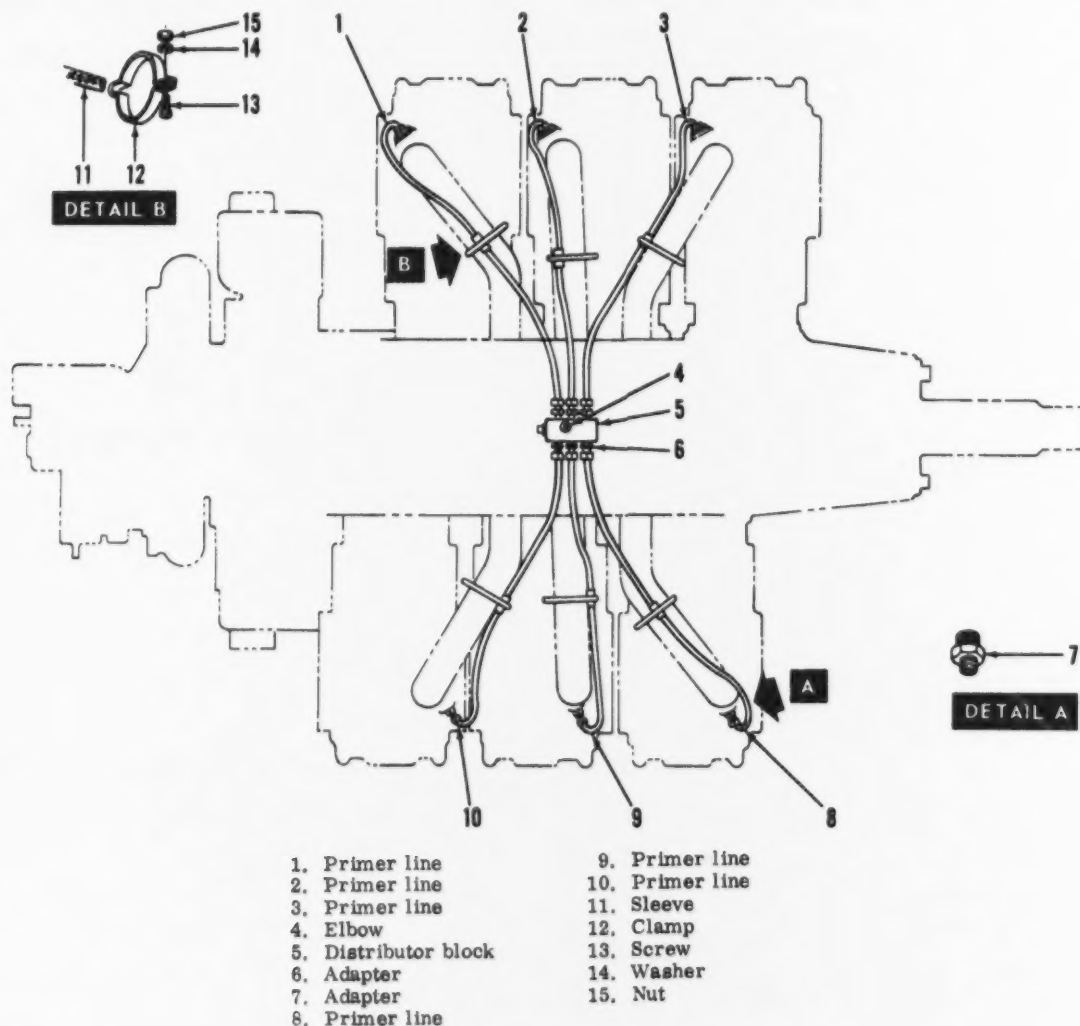

Figure 5-27. Primer system (U-8F)
5-121. The primer distributor block is mounted on the engine. Primer lines extend from the distributor block to each cylinder. (See figure 5-27.) A fuel line from the primer solenoid valve supplies fuel to the distributor block.
a. Removal. (1) Disconnect primer lines (1, 2, 3, 8, 9, and 10, figure 5-27) from adapters (6 and 7).
(2) Remove nuts (15), washers (14), and screws (13) securing clamps (12) to intake pipes. Remove clamps.
(3) Remove primer lines (1, 2, 3, 8, 9, and 10) from engine. Tag each primer line for cylinder identification.
b. Cleaning. (1) Clean primer lines and clamps with dry cleaning solvent (item 6, table 1-8).
c. Inspection. (1) Inspect primer lines for cracks, dents, and evidence of leakage.
(2) Inspect primer lines for wear and chafing under clamps.
(3) Inspect sleeving on primer lines under clamps for chafing, cracks, and distortion.
d. Installation. (1) Position primer lines (1, 2, 3, 8, 9, and 10, figure 5-27) on their respective cylinders.
(2) Connect primer lines to adapters (6 and 7).
(3) Install clamps (12) around intake pipes. Ensure sleeves (11) are positioned under clamps.
(4) Install screws (13), washers (14), and nuts (15) securing clamps (12) to intake pipes.
(5) Place boost pump switch in ON position and operate primer solenoid valve.
(6) Check primer lines and connections for leaks.